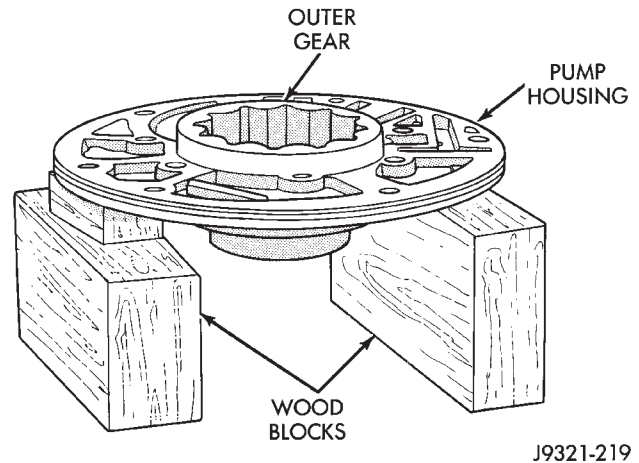

Fig. 126 Supporting Pump And Installing Outer Gear
(1) Lubricate gear bore in pump housing with transmission fluid.
(2) Lubricate pump gears with transmission fluid.
(3) Support pump housing on wood blocks (Fig. 126).
(4) Install outer gear in pump housing (Fig. 126). Gear can be installed either way (it is not a one-way fit).